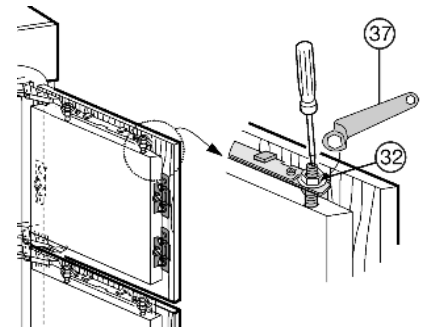

Fig. 25
- ▶ Tighten the locknuts Fig. 25 (32) using the ring spanner Fig. 25 (37), while holding fast the adjusting bolts Fig. 25 (33) with a screwdriver.